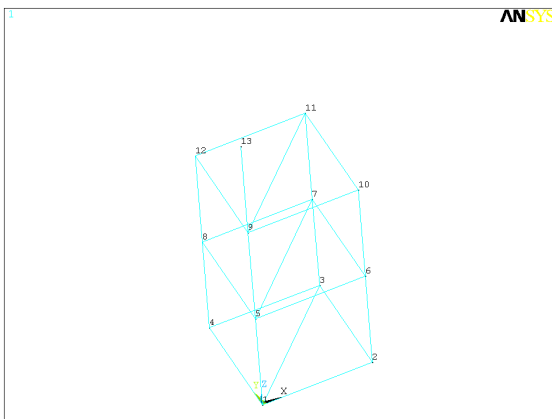

Figure 4.4
5. Now create diagonal elements across each horizontal square pattern of elements, going from the corner nearest the origin to the corner opposite, as shown in the Figure 4.4.